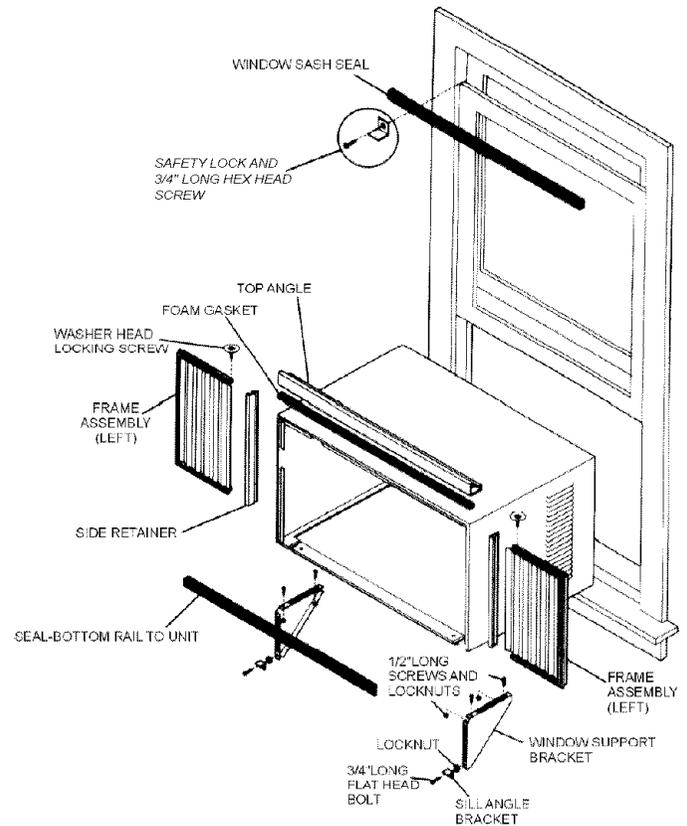

FIG. 1
1. **Check window opening size** - the mounting parts furnished with this air conditioner are made to install in a wooden sill double-hung window. The standard parts are for a window opening of 31"(711 mm) minimum to 42"(1067 mm) maximum width. Open sash to a minimum of 19" (483 mm). (FIG. 1)